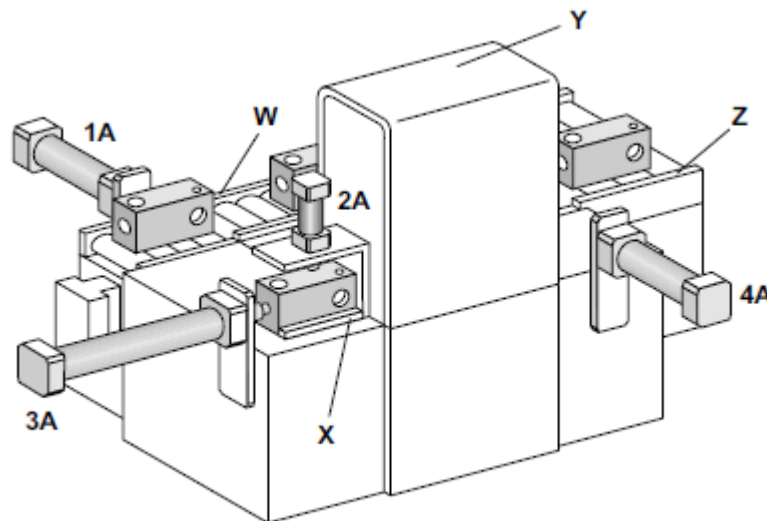

Figure 2 Cleaning System
2. One cleaning system based on electropneumatic components and PLC is shown in Figure 2. Housing parts coming from a drilling and milling station are to be cleaned. Cylinder (1A) pushes the part to be cleaned from the conveyor belt(W) onto a carrier (X). The part is clamped by cylinder (2A) and at the same time cylinder (1A) retracts back. Then cylinder(3A) transports it through the washing cabin(Y). Once the washing process is completed, cylinder (2A) unclamps the part and actuator (4A) pushes it onto the conveyor belt (Z) and retracts. Cylinder (3A) returns the carrier to its position. The control system is once more located in the initial position.